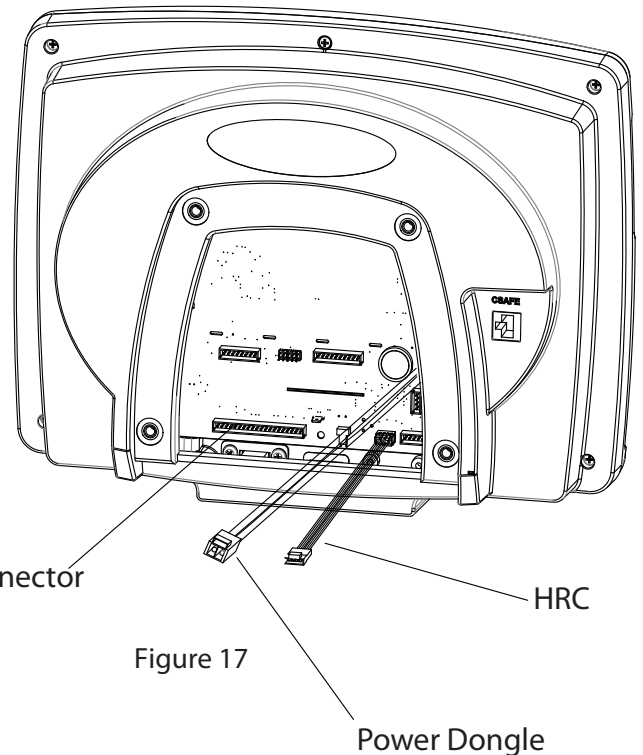

Figure 17
- 10-1 Grasp the FreeClimber console and connect the HRC cable from the upper mast weldment to the PC board cable (see Figure 17).
- 10-2 Connect the power connector to the power dongle on the console. (see Figure 17).